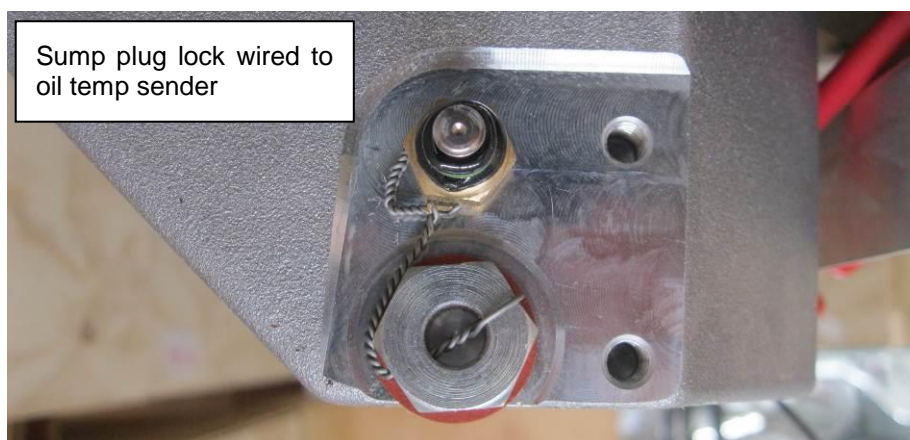

Figure 128 – Sump plug lock wiring
- Note the orientation of the lock wire as shown in Figure 128. The lock wire must retain the plug from rotating to untighten. Wire ends must be neat.